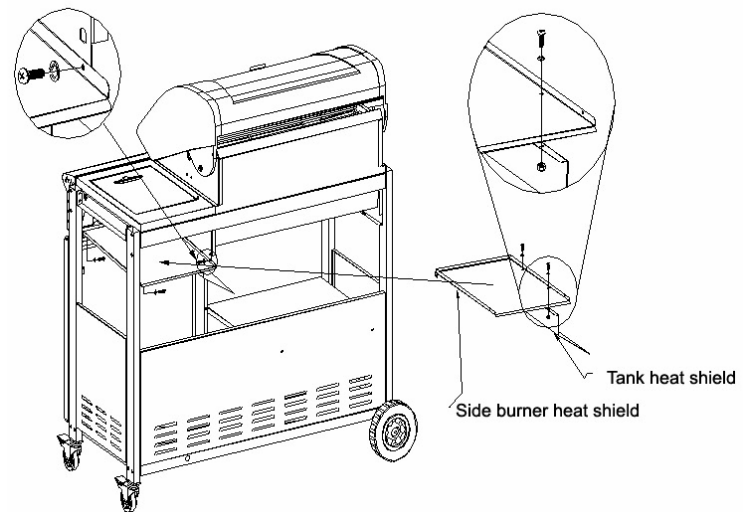

Figure 13
4. Use (2) 5/32 x 3/8" Phillips head screws and (2) 5/32" nuts with (2) 5/32" lock washers to attach the side burner heat shield and tank heat shield together. Use (3) 5/32 x 3/8" Phillips head screws with (3) 5/32" lock washers, (1) 5/32 x 1-1/2" Phillips head screw and (1) 5/32" nut with 5/32" lock washer to attach the shield assembly to the leg and firebox bottom. (Fig.13)